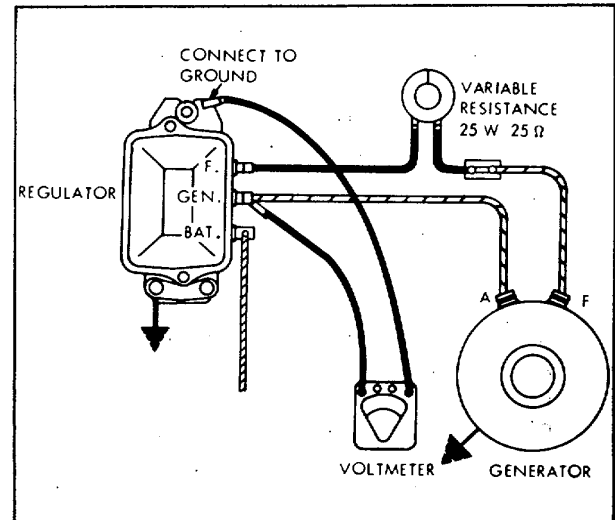

Figure 5-7. Cutout Relay Test Setup
(1) Disconnect lead at regulator F terminal and connect 0.25 ohm 25 watt variable resistor in series with F terminal and lead (Fig. 5-7).
(2) Connect voltmeter from GEN terminal to ground on frame. Remove regulator cover and operate engine at fast idle.
(3) Increase field resistance until cutout relay opens, then decrease it until points close. Observe voltage at which points close (refer to Table 2-1). Perform step b. below next.